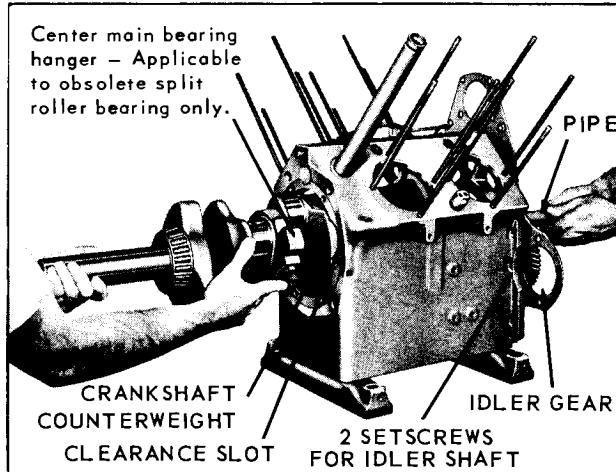
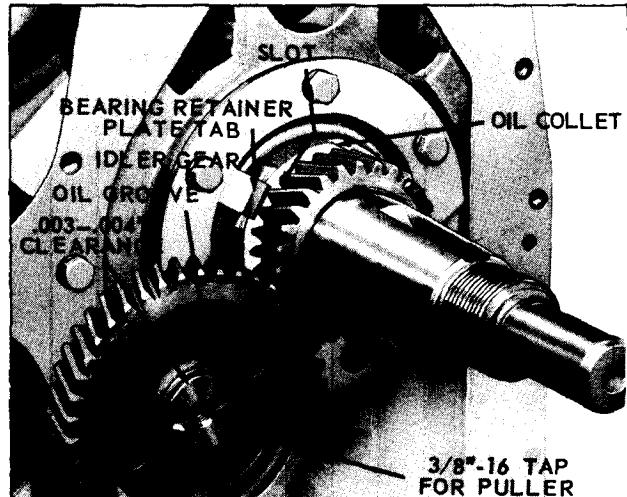

Fig. 49
Fig. 52
### MAIN BEARING PLATE and CRANKSHAFT (Fig. 49)
Remove main bearing plate, gaskets and shims from take-off end of engine. Slip a length of pipe over the gear end of the crankshaft and with the assistance of another person, withdraw the shaft thru the main bearing plate opening, as illustrated in Fig. 49. Removal of crankshaft **with center bearing hanger assembled** to it applies only to the obsolete split roller bearing. Caution: It will be necessary to rotate the crankshaft so that counterweights clear the center main bearing hanger lugs in crankcase.
### IDLER GEAR AND SHAFT (Fig. 49, Fig. 52)
A tapped hole in the side of the crankcase contains 2 setscrews for locking idler shaft in place. See Fig. 49. Remove screws with a
**In reassembly:** be sure oil groove in shaft is facing up. Drive shaft into crankcase with soft metal hammer and maintain a **.003 to .004 inch** clearance between idler gear and shoulder of shaft, see Fig. 52. Lock shaft in place with the 2 Allen set screws.
Remove the center main bearing hanger to crankcase mounting screws and spacers. Tip case back on engine supports and remove main bearing plate, gaskets and shims. Slip a length of pipe over the gear end of the crankshaft and with the assistance of another person, withdraw crankshaft with center bearing thru the main bearing plate opening, as illustrated in Fig. 49.
*In reassembly;* rotate crankshaft oil collet so that slot engages with tab on bearing retainer plate, as illustrated in Fig. 52. Mount main bearing plate, gaskets and shims, and torque capscrews to 32 foot pounds. Check end play and add or remove gaskets to give the necessary .002 to .004 inch movement.